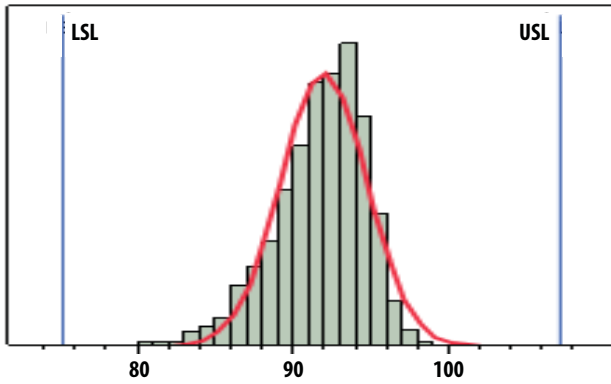

Figure 1. Idd, LSL = 75 mA, nominal = 92 mA, USL = 107 mA
RF performance at  $T_A = 25^\circ\text{C}$ ,  $V_{dd} = 5\text{ V}$ , 915 MHz, measured on demo board in Figure 1 with component listed in Table 1 for DC bypass.
1. Measurements at 915 MHz obtained using demo board described in Figure 1.